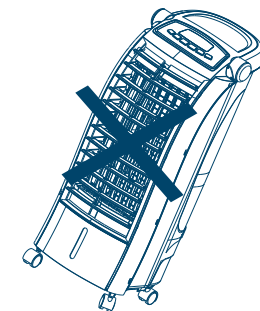

Fig.5
- 2.After the unit is filled with water, do not tilt or crash it when placing or moving the unit. If moving the unit is necessary, please push it slowly to avoid overflowing. Tilting the unit during operation is prohibited(See Fig.5).